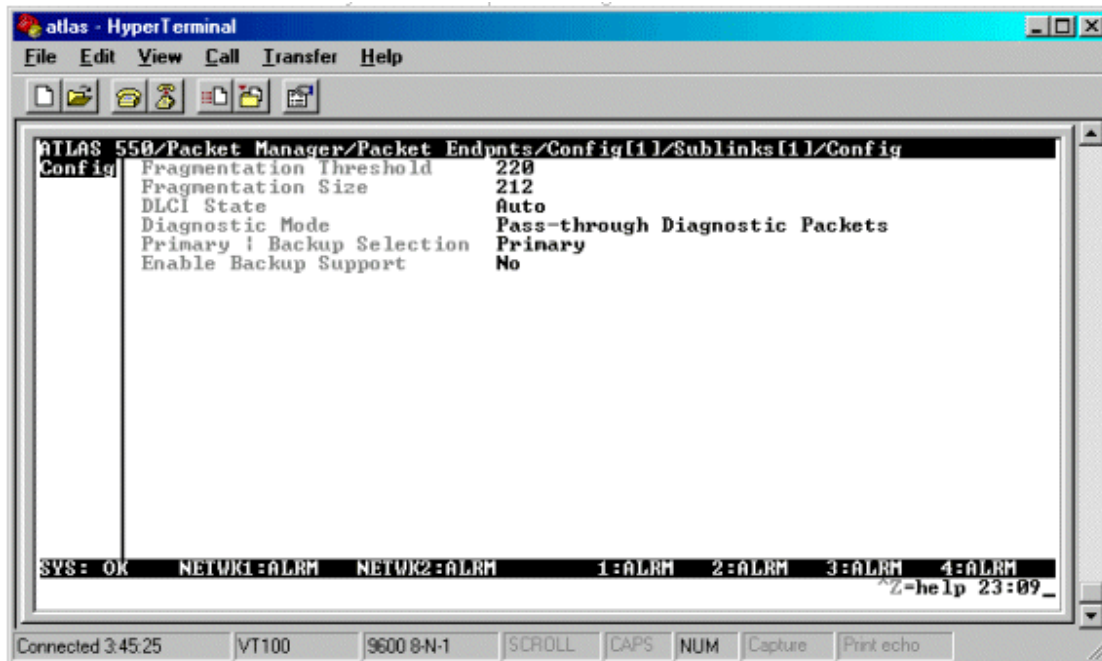

Figure 6
14. Press <enter> on **Config** and change the **Fragmentation Threshold** to 220. This field tells the ATLAS what packet size to use for each fragment. The far end ATLAS must also be set for this value. Fragmentation of the packets allows packets to be transmitted quickly instead of having the long delay associated with a large packet. Whenever an application consists of data along with compressed voice, it is necessary to turn on fragmentation. See **Figure 6**.